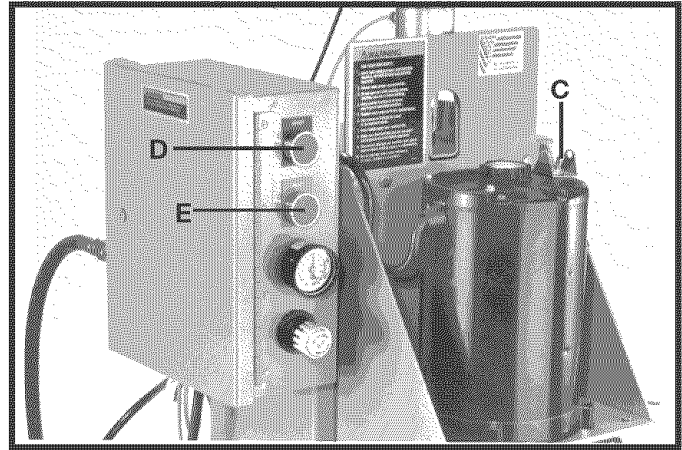

Fig. 47
2. Move the motor on-off switch (C) Fig. 47, to the "ON" position. The motor will not start at this time.
3. Press in and hold the start button (D) Fig. 47. This will start the machine and begin the operating cycle of the boring head. At completion of the operating cycle, the machine will shut off and you can release the start button (D). If you release the start button (D) at any time during the operating cycle, the motor will shut off and the boring head will return to the up position.
4. If the motor does not start, press the reset button (E) Fig. 47. If the machine still does not start, refer to section "ADJUSTING AIR PRESSURE."